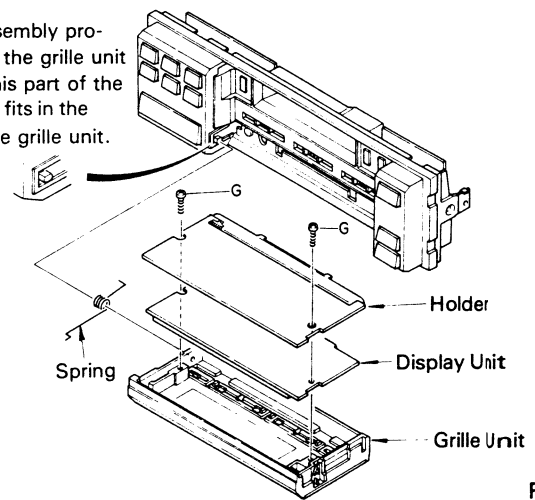

Fig. 10
2. The display unit can be removed as shown in Fig. 10.